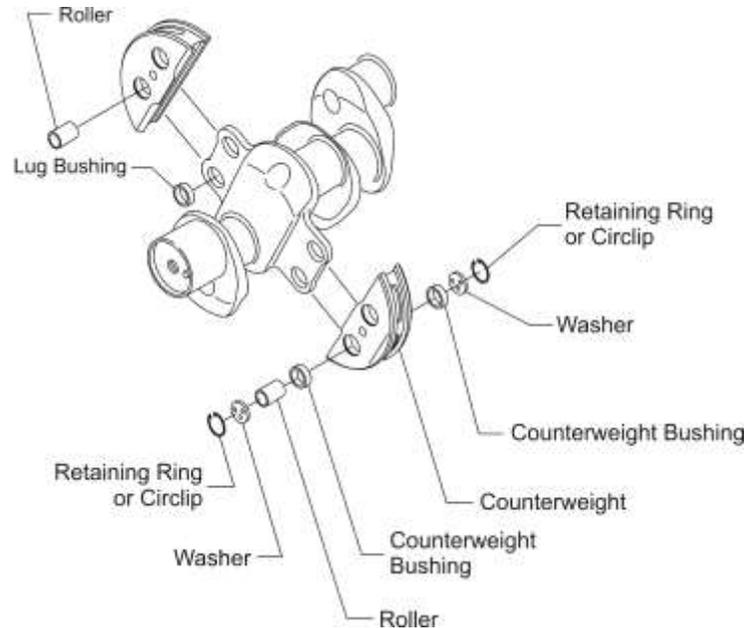

Figure 22
NOTICE: Counterweights (Figure 22) of a specific order are installed in specified locations identified in the latest revision of Service Instruction No. SI-1012.
- (2) Remove the two retaining rings (or circlips), two washers, and matched roller pair (Figure 22) from each counterweight. Discard the retaining rings and washers regardless of condition.
If a lug bushing (Figure 22) is damaged, replace it per instructions in the latest revision of Service Instruction No. SI-1142.